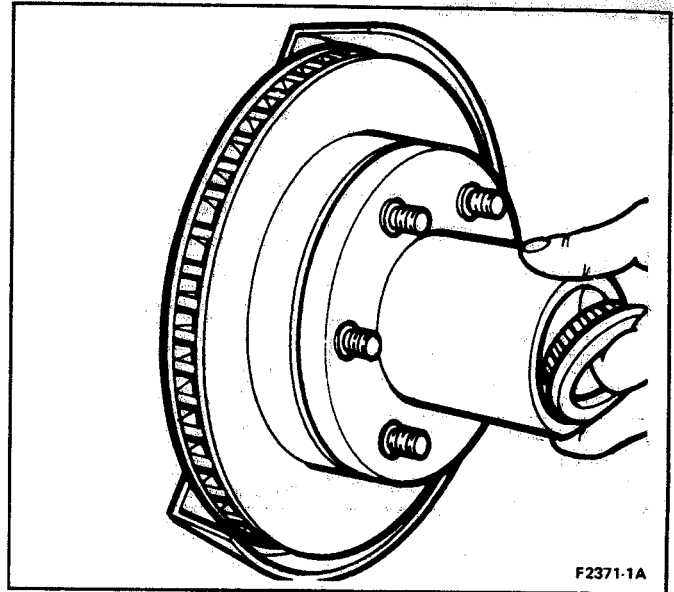

FIG. 10 Hub, Disc, and Outer Bearing Removal
6. Remove the hub and disc assembly. The outer wheel bearing cone and roller assembly will slide out as the hub is removed (Fig. 10).